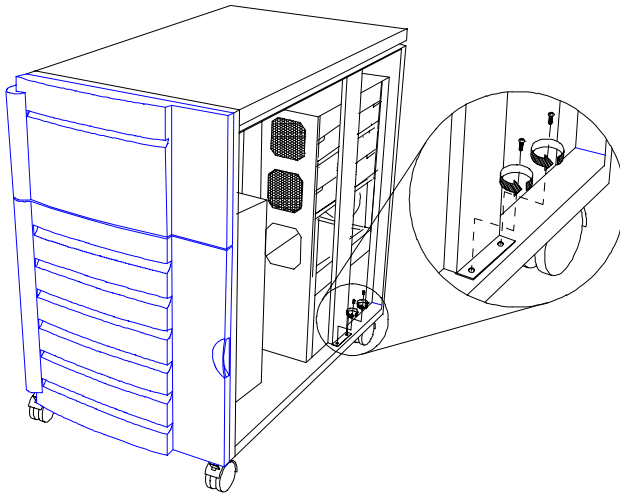

Figure C-1 Removing the Metal Bar Screws
2. Remove the two screws that secure the metal bar over the power supply enclosure (see Figure C-1).